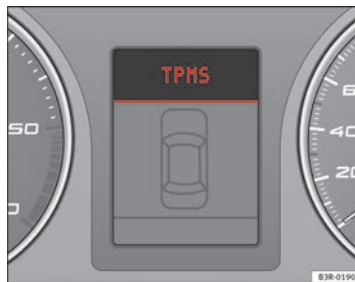
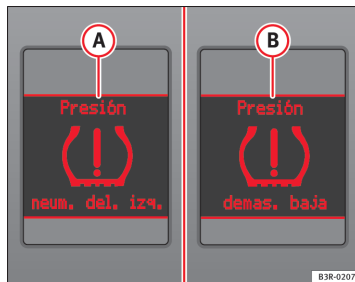

Fig. 45 Display: system fault
Fig. 46 Display: warning message ▶
The yellow warning (⚠) lamp remains on if the system is faulty or if the pressure is too low in at least one tyre. In the event of a system fault, the letters TPMS are displayed in the centre of the instrument panel ⇒ fig. 45. If the tyre pressure drops rapidly, message (A) ⇒ fig. 46 will be shown on the central display of the instrument panel. If the pressure loss is more gradual, message (B) ⇒ fig. 46 will be shown on the central display of the instrument panel. This message does not show the tyre affected. Should any of these warnings be displayed: